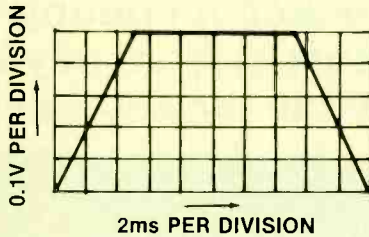

Figure 1. What is the rise time of this waveform?
1. The rise time of the waveform in Figure 1